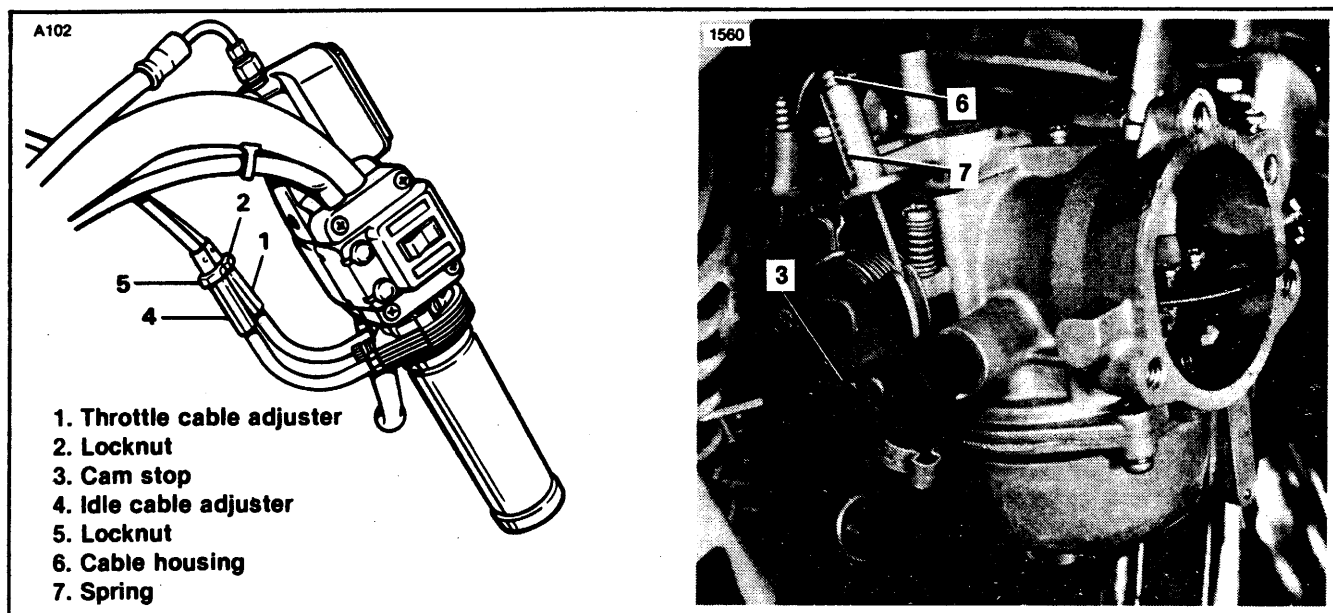

Figure 3. Throttle Cable Adjustment
1. See Figure 3. Turn the cable adjusters (1 and 4) and locknuts (2 and 5) clockwise as far as they will go. Both cables should have zero adjustment to start this procedure.
2. See Figure 3. Point the front wheel straight ahead. Turn the throttle grip so the throttle is wide open (fully counterclockwise) and hold it there. Now turn the throttle cable adjuster (1) counterclockwise un-